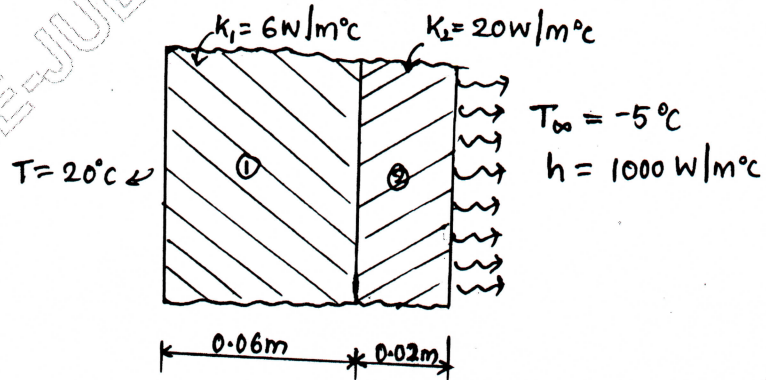

Fig Q10(b)
b. Determine the temperature distribution through the composite wall as shown in Fig Q10 (b), when convective heat loss occurs on the right surface. Assume a unit area.